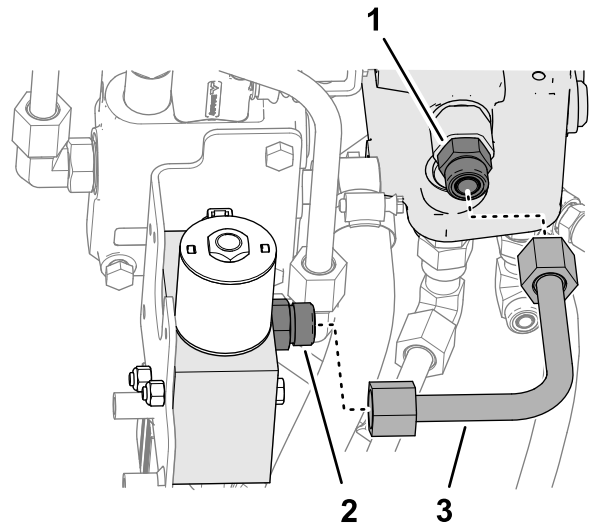

Figure 22
1. Assemble the L-shaped tube to the straight fitting in port-C of the low-flow valve and the straight fitting in port-T-1 of the loader-arm valve (Figure 22).